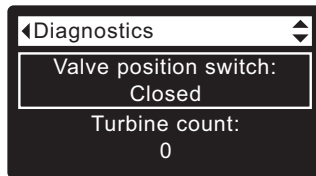

FIG. 160
2. Press the DOWN (▼) button to scroll through the list until **Valve position switch** is displayed (See Figure 160).